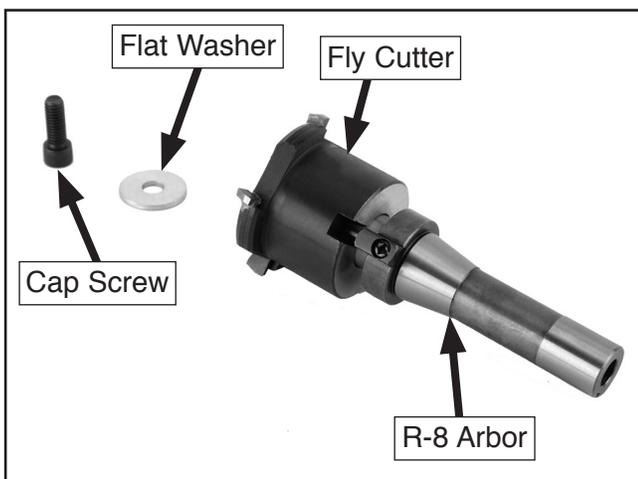

Figure 23. Fly cutter.
3. Fit the fly cutter onto the stub end of the arbor so the keys on the arbor and the keyways on the fly cutter come together (**Figure 23**).